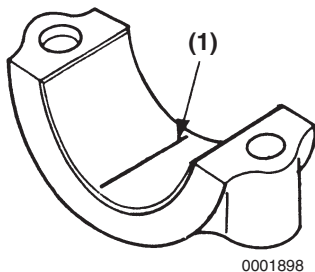

Figure 6-57
6. Place a piece of PLASTIGAGE® (**Figure 6-57, (1)**) along the full width of the bearing insert.